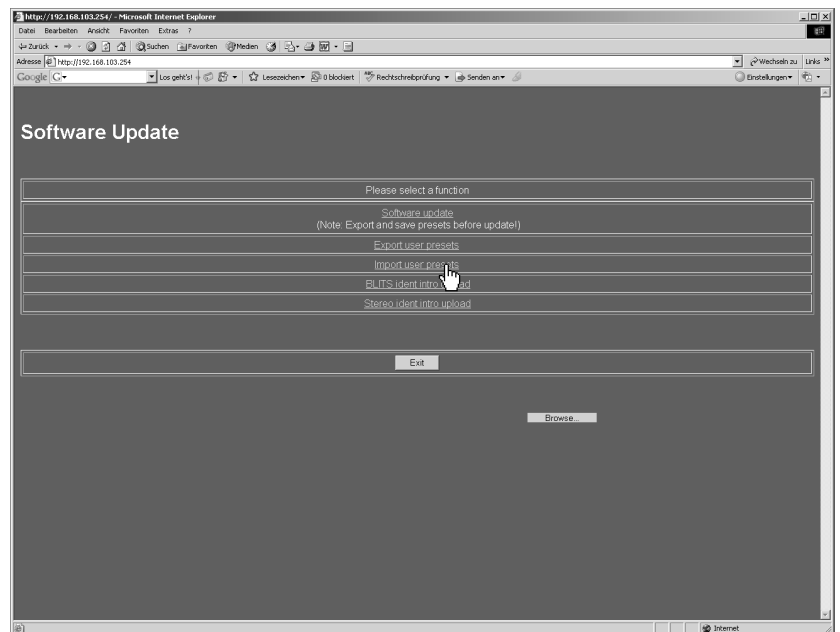
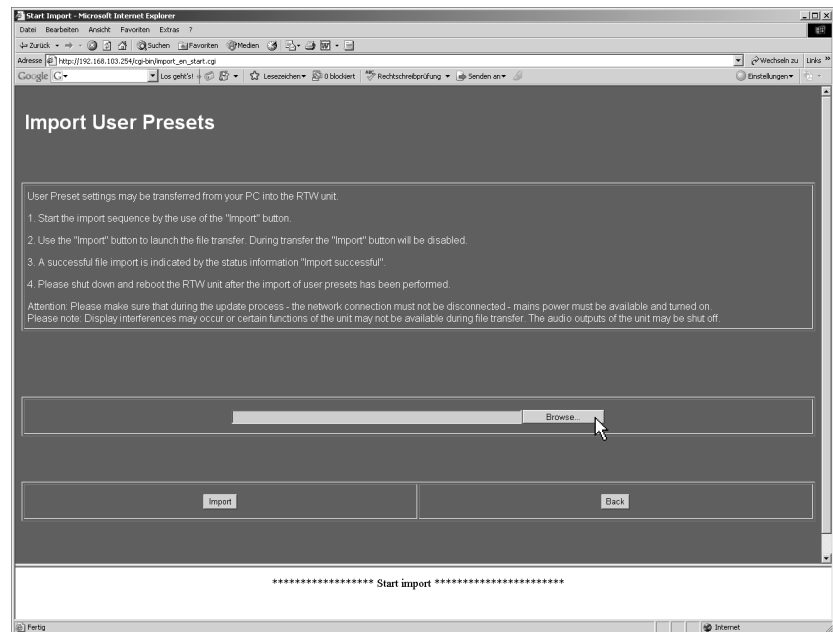
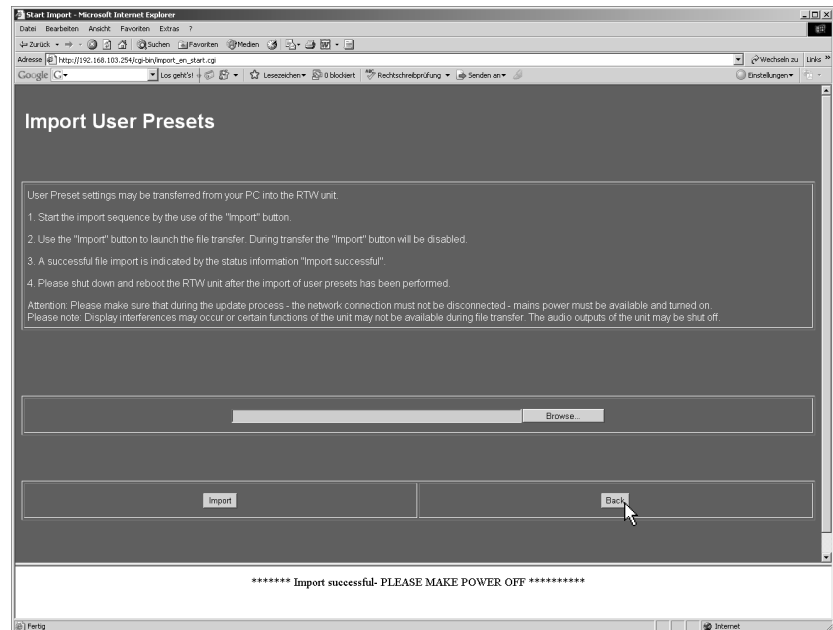

Fig. 8-20: Software Update Program menu in web browser
Fig. 8-21: Display of the Import menu page (Browse ...)
Fig. 8-25: End of the import of the user settings
2. The SurroundControl units should respond with a screen like the one shown in Fig. 8-20. Choose **Import user presets**. **Please note the instructions on the Import menu page** (see Fig. 8-21).
3. Please click the **Browse ...** button (see Fig. 8-21) to browse for the user settings data file.
7. When "Import successful - PLEASE MAKE POWER OFF" is displayed the Import process is finished (see Fig. 8-25). For activating the imported user settings the SurroundControl units have to be restarted.
8. Click the **Back** button (see Fig. 8-25) to get back to the home page (see Fig. 8-20). There please click **Finish** to leave the software update program.